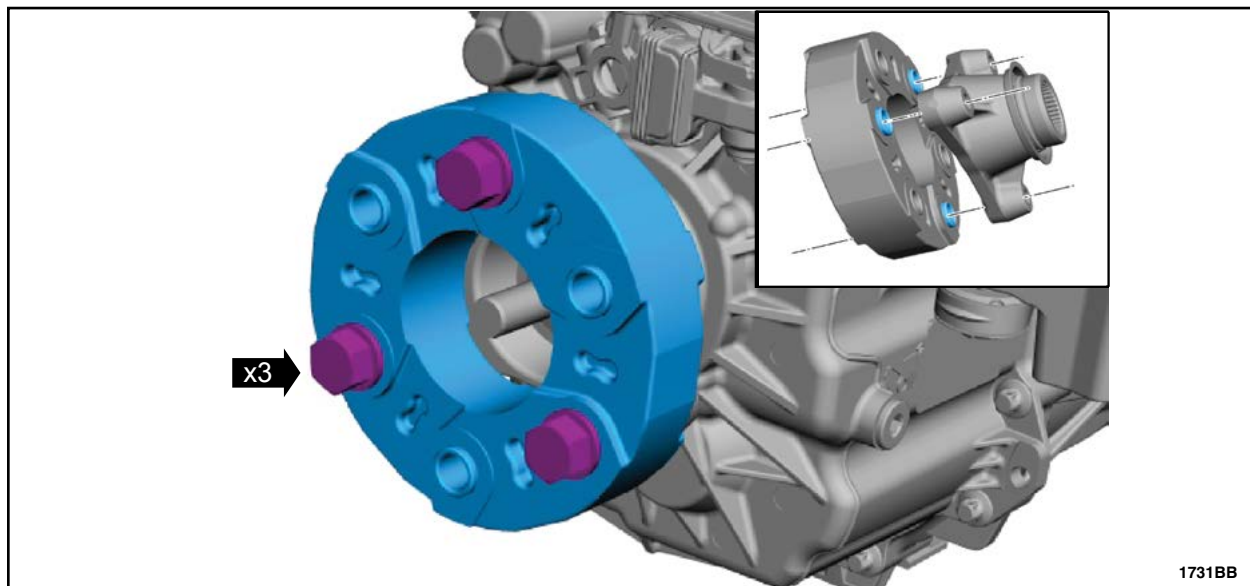

FIGURE 10
11. Install the *new* driveshaft flexible coupling. Please follow the Driveshaft Flexible Coupling Removal and Installation Workshop Manual (WSM) procedure in Section 205-01. See Figures 10 and 11.
NOTICE: The flex coupling must be installed with the blue paint mark facing the transmission output flange. The protruding flex coupling bushings must align with the driveshaft flange and transmission output flange as shown in Figures 10 and 11.